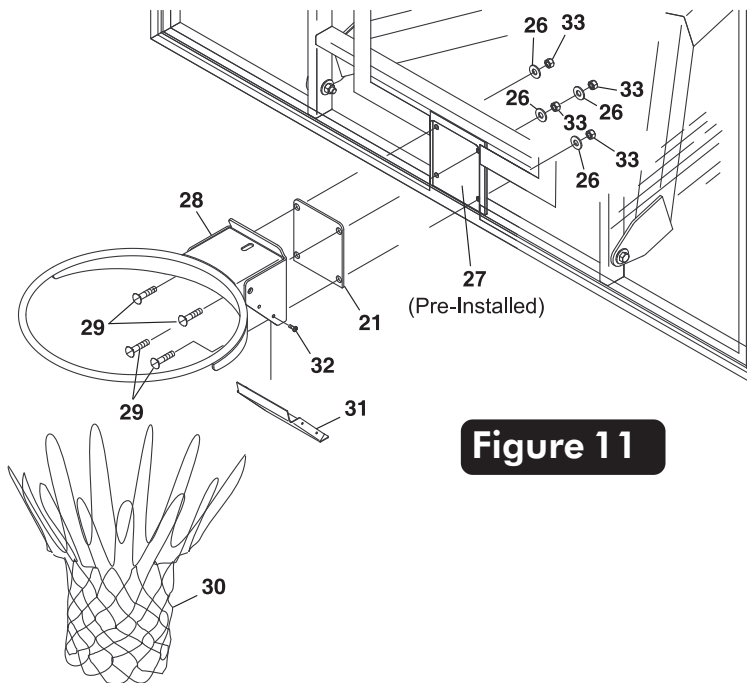

Figure 11
16. Remove protective backboard covering and mount Goal Assembly (#28) and Rim Pad (#21) to Spacer Plate (#27), and Backboard, as shown in Figure 11, using four bolts (#29), four washers (#26), and four locknuts (#33). Tighten fasteners finger tight, leave them loose enough to level rim.
18. Attach Rim Cover Plate (#31) using four screws (#32). See Figure 11.